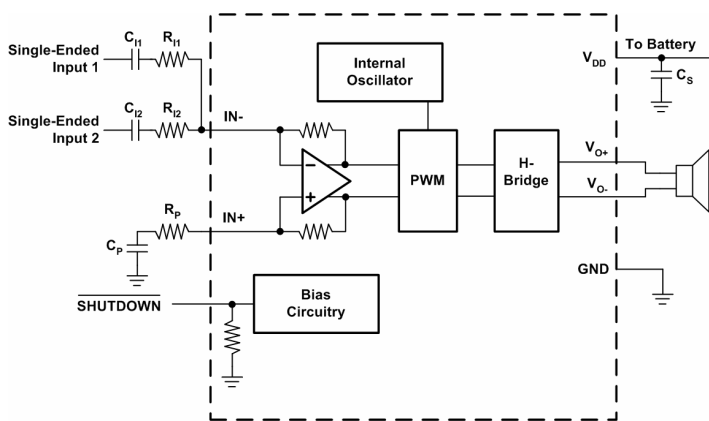

Figure 35. Application Schematic with EUA2011 Summing Two Single-Ended Input
Four resistors and three capacitors are needed for summing single-ended input signals. The gain and corner frequencies (f_{c1} and f_{c2}) for each input source can be set independently (see equations (9) through (12), and Figure 35). Resistor, R_P , and capacitor, C_P , are needed on the $IN+$ terminal to match the impedance on the $IN-$ terminal. The single-ended inputs must be driven by low impedance sources even if one of the inputs is not outputting an ac signal.